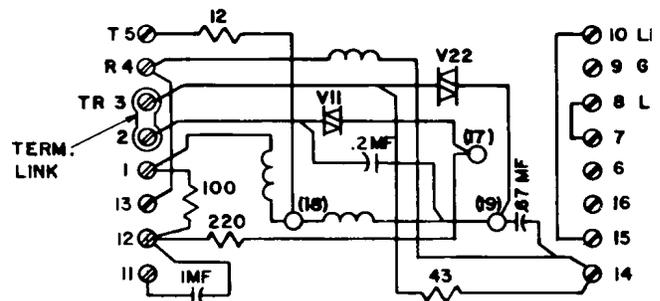

Figure 3. Schematic Diagram of Transmission Network for Self-Compensating Circuit.
2.25 The series-rheostat transmission unit circuit has been superceded by the self-compensating varistor-regulated circuit. This circuit employs varistor action for regulating the amplitude of both the sidetone and transmission signals. Two varistors included in the network exhibit decreased resistance when the potential across them increases due to the increase in loop current in short loop connections. Varistor V11, which is bridged across the line in series with a limiting resistor (Figure 3) introduces a shunt loss between the impedance of the line and the impedance of the set. This provides regulation of both the transmit and receive levels. Varistor V22 provides an a-c path which shunts resistor R3 in the sidetone balancing impedance, as well as a d-c path which shunts the transmitter branch. Therefore, this varistor serves the dual function of maintaining sidetone balance while controlling transmitter current.